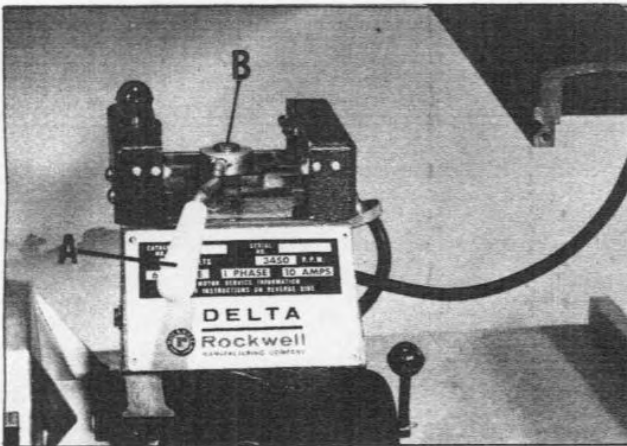

Fig. 31
3. Adjust the yoke clamping handle (A) Fig. 31, by tightening the nut located on the bottom of the stud (B). Tighten this nut until the yoke clamping handle locks in a convenient position and reassemble the cuttinghead to the track-arm.